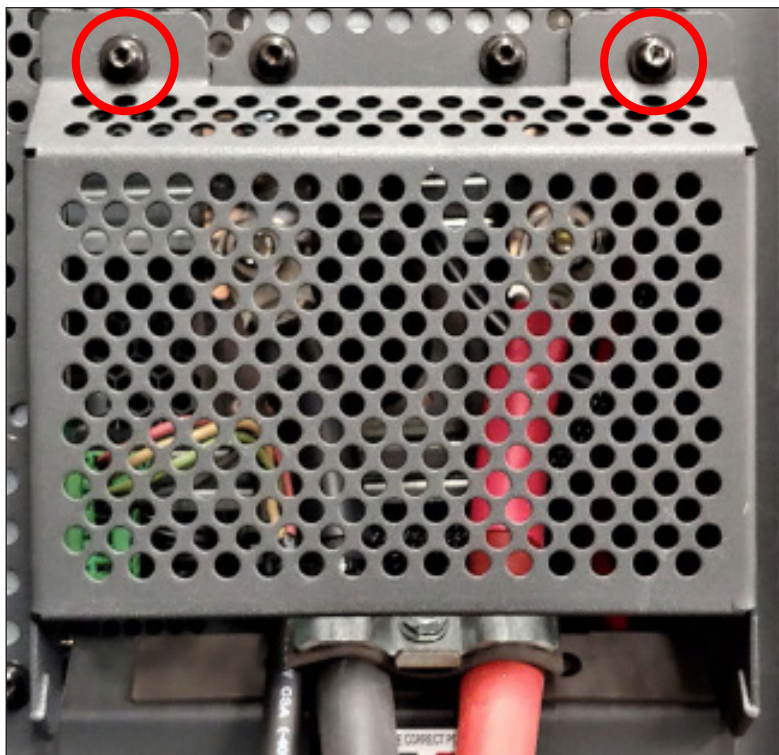

Figure 18 Two TORX TX25 Screws Securing the DC Output Power Cable Panel
4.7.2.1. Remove the TORX TX25 screws from the DC output power cable panel located at the bottom left of the charger (Figure 18), and pull the panel up and away from the charger cabinet.
The DC-panel cover must be reinstalled by tightening the two TORX TX25 screws (Figure 18), for which the torque is 21.24 in-lbs (2.4 Nm).